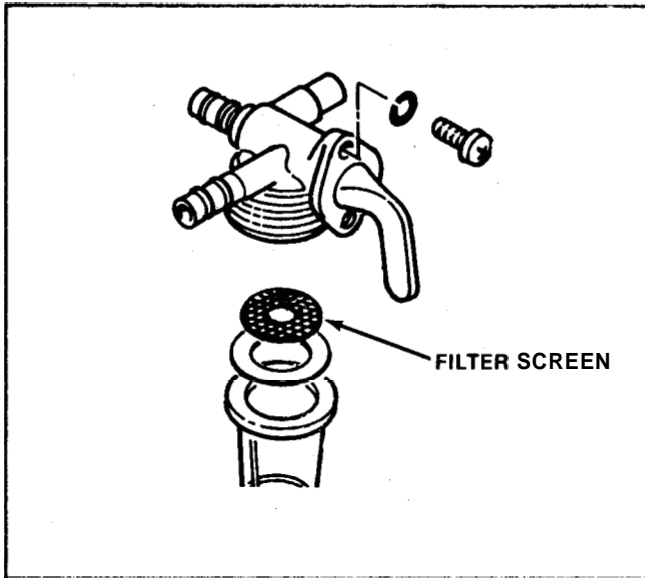

Figure 27
3. Take note that there is a filter screen in the head of the valve that may be cleaned or replaced as required. The part number of the screen is 50-3770. See Figure 27.